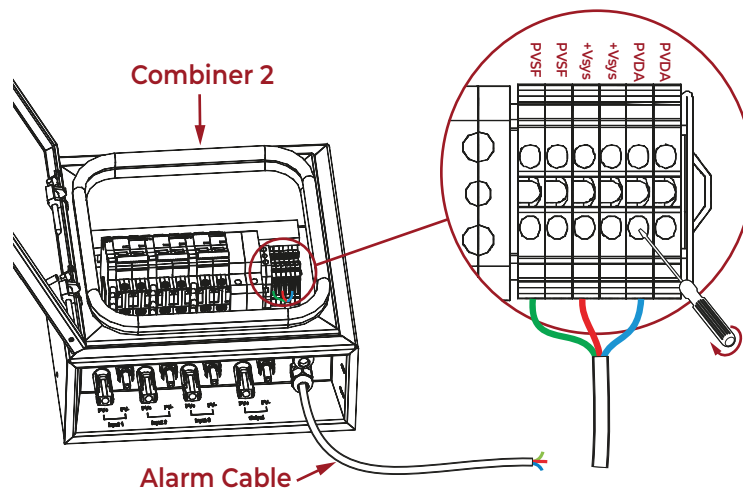

Figure 4-15 Connecting the Alarm Cable to PV String Combiner #2
3. Connect the other end of wires orderly to the terminals respectively labelled as PVSF, +Vsys, PVDA of the Combiner 2 (Figure 4-15).